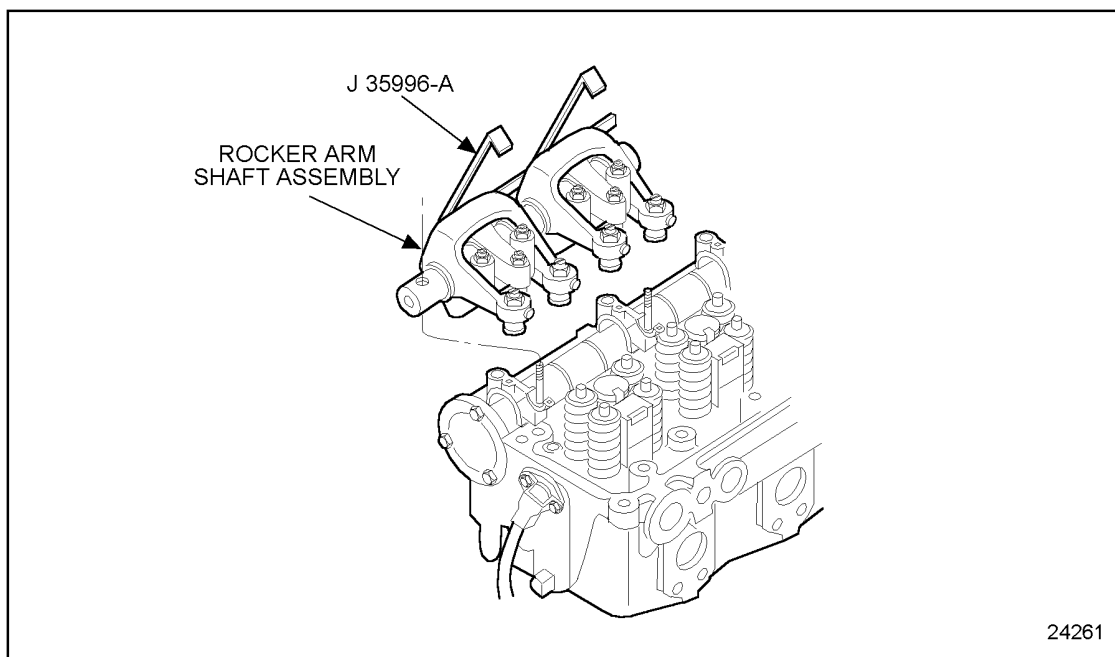

Figure 1-54 Rocker Arm Shaft Assembly Removal and Installation
4. Use rocker arm and shaft assembly lifter tool, J 35996-A, to remove the rocker arm shafts, with rocker arm assemblies in place. See Figure 1-54.
6. Using care to locate the valve button of the unitized valve adjusting screw assemblies to their respective valve stems and injector followers, install the rocker arm shaft assemblies to the cylinder head using J 35996-A. See Figure 1-54.